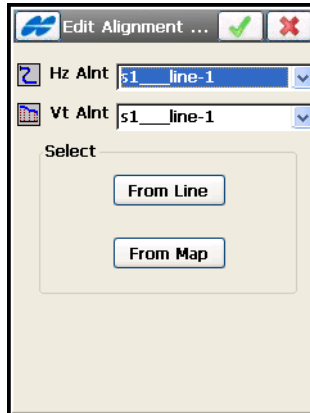

Figure 7-34. Edit String Alignments
- **Edit** – opens the *Edit Alignment* screen to edit the selected pair of alignments (Figure 7-34 on page 7-35).
The *Edit Alignment* screen allows editing the selected pair of horizontal and vertical alignments (Figure 7-34).